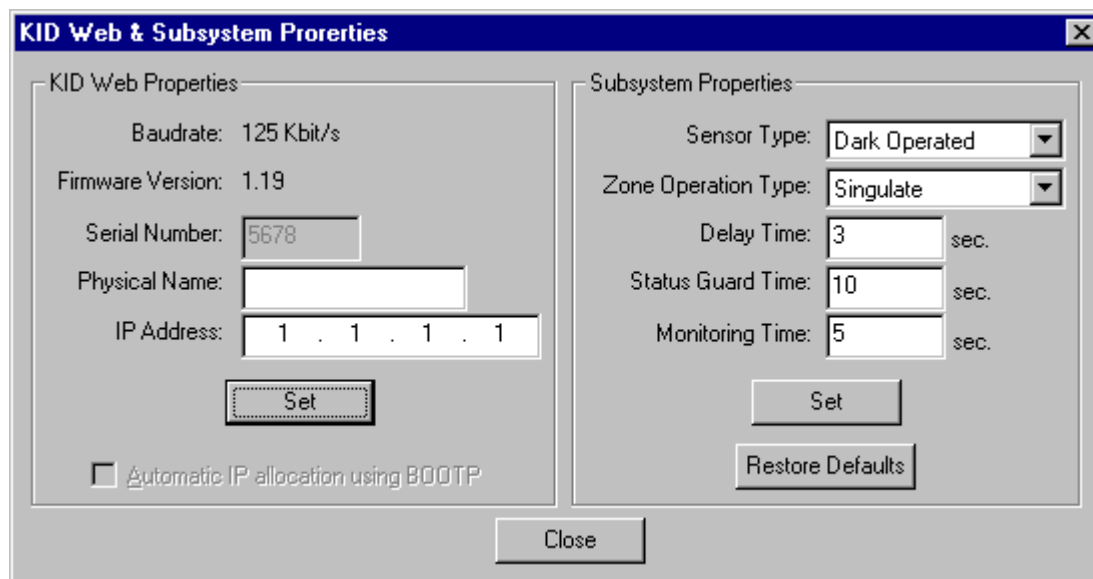

Fig. 5.4
- Click on **Properties...** item to open the **KID Web & Subsystem Properties** dialog box – Fig. 5.4.